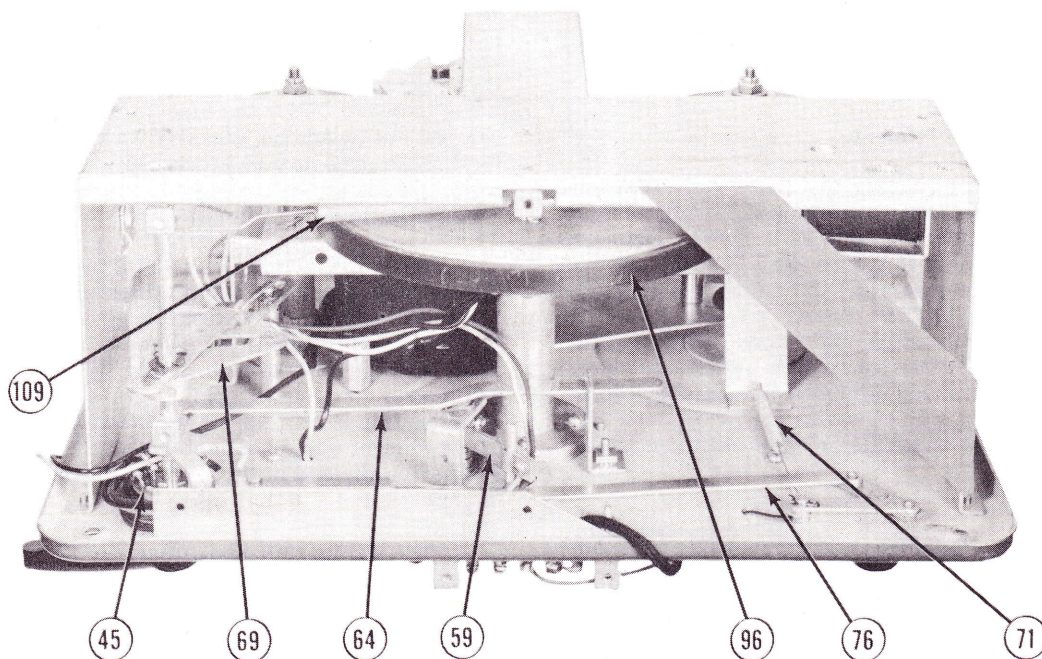

Figure 4
With the motor running in "Reverse" direction, the rear idler wheel and bracket (101) is adjusted by loosening the two mounting screws (110A), figure 4, and sliding the bracket to the left (facing the rear of the machine) until the cam follower (63) has approximately 1/16" slack. The idler wheel must be horizontally aligned with the main drive wheel (96) for proper performance. Be sure the adjusting screws are tight after the adjustment is made; check to be sure that rear idler wheel does not contact the neoprene oil catcher on the motor shaft while operating.